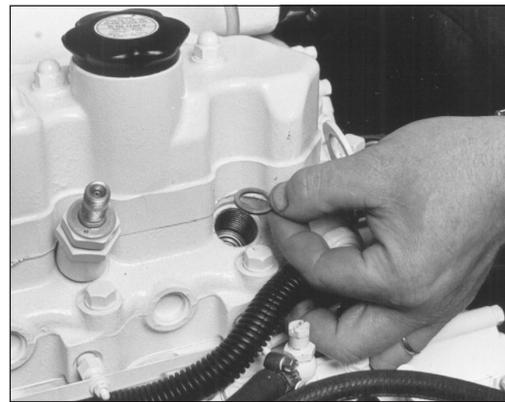

Figure 12: Remove and replace copper sealing washer.
- e. Unscrew and remove the injectors (Figure 12).